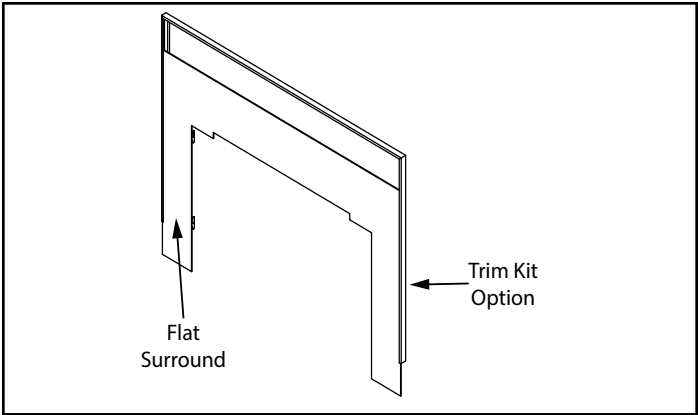

Figure 5.8
3. Slide trim over flat surround as shown in Figure 5.8.